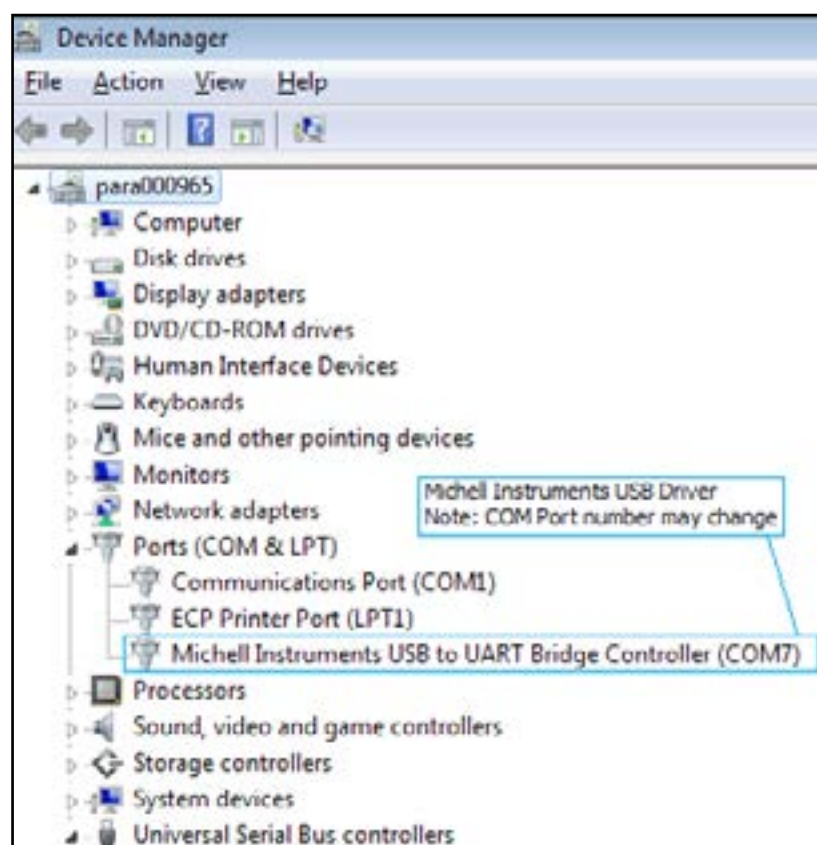

Figure 29 Windows Device Manager Screen
2. Windows will recognize the instrument and automatically install the relevant drivers. If the driver installation has been successful, then the Windows Device Manager will list the following driver (see *Figure 29*):
Manual – Choose the appropriate COM port from the drop down list, as shown in the Windows Device Manager (see *Figure 29*).